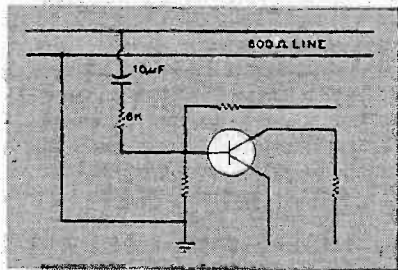

Fig. 17. Transistor circuit for bridging low-impedance line replaces transformer.
**Line bridging:** it is often necessary in audio work to bridge across a low-impedance line. This is done without a transformer by using a transistor. To be a good bridge, the so-called bridging impedance should be at least ten times the line impedance. In Fig. 17, for example, if the line is rated at 600 ohms, then a suitable bridging impedance might be 6,000 ohms or higher. For an unbalanced line there is no trouble—Fig. 17, with the series resistor equal to 6,000 ohms, will surely not load the line.